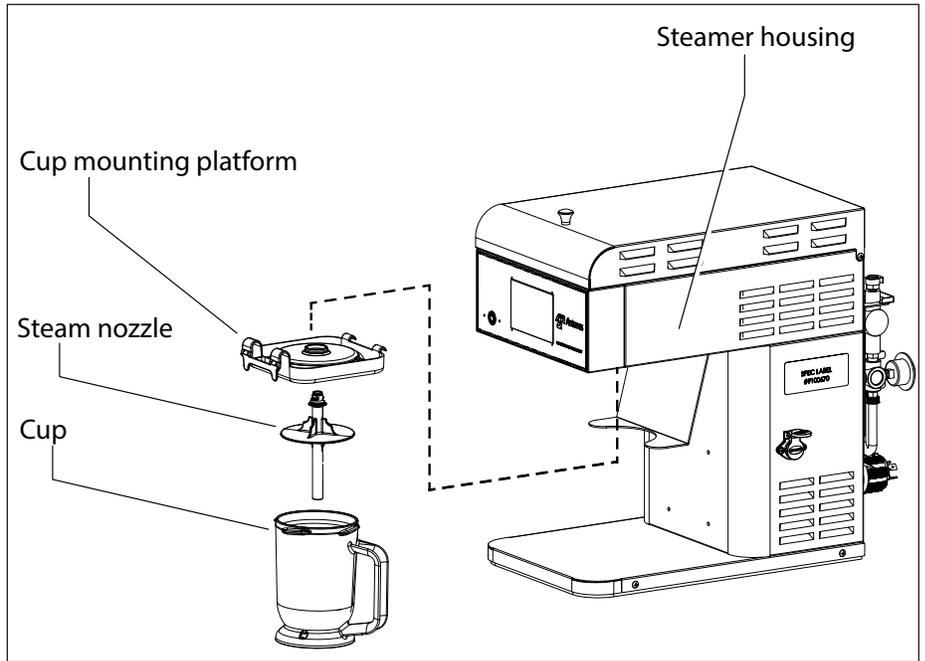

Figure 2. Components
7. Snap the cup mounting platform into the four rectangular holes in underside of the steamer housing as shown in Figure 2.